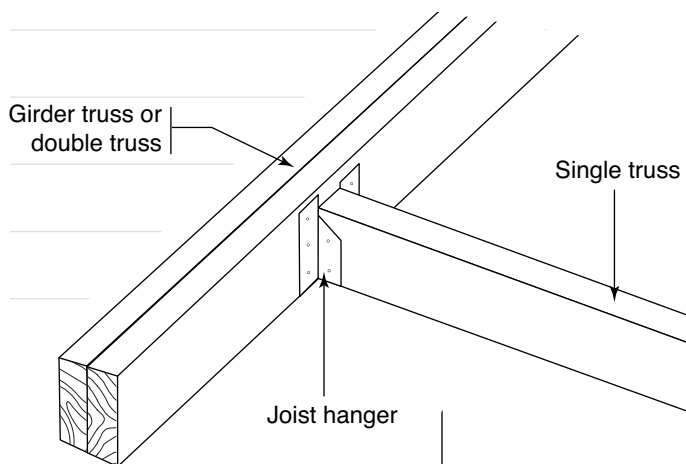

FIGURE 19
- ◆ Use truss hangers that are large enough, and fully fasten them to support trusses or beams (see Figure 19).